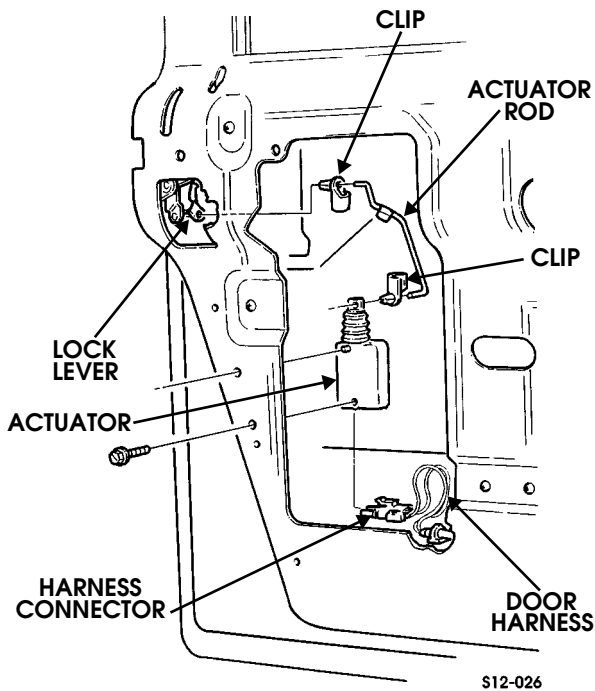

Figure 12-4: Door Lock Actuator Removal/Installation
4. Detach door harness connector from door actuator (Figure 12-4).
1. Connect clip and actuator rod to lock lever (Figure 12-4).